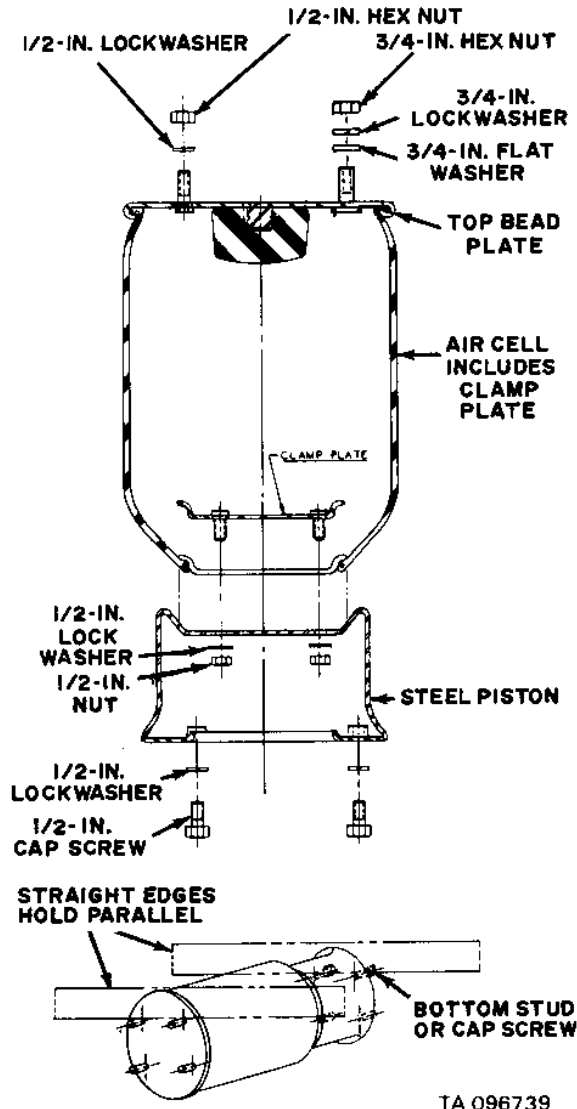

Figure 4-43. Air spring replacement.
(1) Block up semitrailer to remove all weight from suspension.
(2) Disconnect linkage from height control valve supplying faulty air spring and exhaust pressurized air by moving actuating arm down.
(3) Disconnect air line (8) from top of air spring (15). Remove upper mounting nuts (11 and 12), lock washers (10 and 13), and flat washer (9). Remove lower mounting cap screws (17) and lock washers (13).
(4) Depress air spring to retract upper mounting studs from frame and remove air spring with lower piston attached.
(5) Turn air spring assembly upside down and remove 1/2-inch nuts (fig. 4-43) from inside of piston. Tap down on clamp plate studs until air cell separates from piston.
(1) Position new air cell, right side up, over piston. Position clamp plate so that studs hang down through opening in air cell.
(2) Carefully set air cell down on piston so that studs go through holes in piston.
(3) Start the 1/2-inch nuts and lock washers on studs inside piston (fig. 4-43). Do not tighten.
(4) Rotate piston so that mounting studs in bottom of piston are parallel with mounting studs in top bead plate.
(5) Start cap screws in bottom of piston (fig. 4-43). Hold two straight edges against top studs and bottom cap screws as shown in fig. 4-43. Adjust piston studs until straight edges aline.
(6) Tighten nuts inside piston to a torque of 50 lb-ft.
(7) Recheck for proper alignment of top and bottom studs.
(8) Pressure test at 40 psi and check for leaks with soap solution.